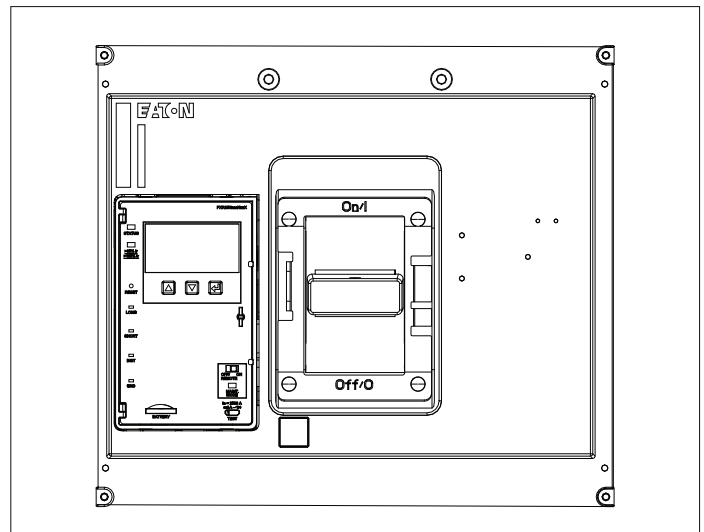

Fig. 2-1 Locating Mounting Holes
- 2-1. Locate the mounting holes in the cover (see Fig. 2-1).